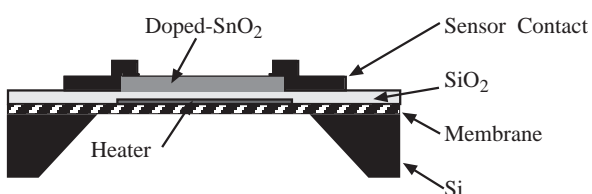

Figure 1: Schematic drawing
■ MSGS-3001 Integrated semi-conductor carbon monoxide (CO) gas sensors are manufactured using standard microelectronic technology and silicon micromachining techniques.
■ The MSGS-3001 structure consists of a doped tin-oxide ( $\text{SnO}_2$ ) thin-film layer over an embedded thin film heater (figure 1). This integrated heater resistance ( $R_H$ ) is used to control the sensitive layer temperature which is necessary for Chemisorption/Reaction